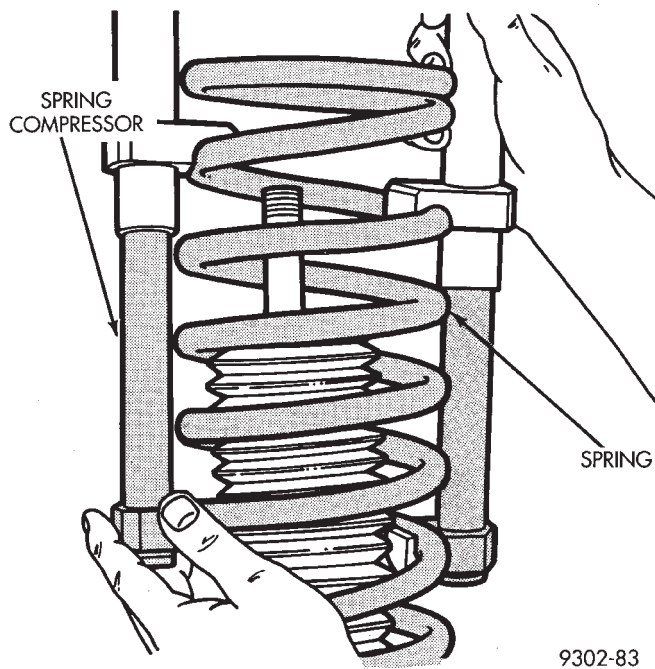

Fig. 4 Coil Spring Remove And Replace
(6) Remove the coil spring and spring compressor as an assembly from the strut (Fig. 4).
(4) Lower the coil spring and compressor onto the strut unit (Fig. 4) Align the paint mark on the spring with the paint mark on the strut unit (Fig. 1).